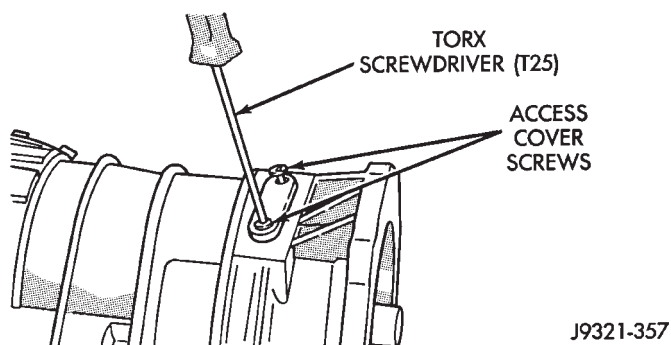

Fig. 62 Installing Locating Ring Access Cover And Gasket
(10) Install locating ring access cover and gasket in overdrive unit case (Fig. 62).